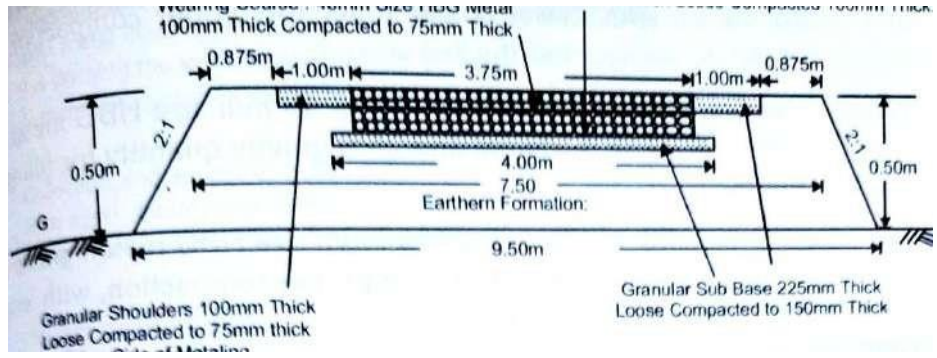

Fig.5
(B) Calculate the following quantities of WBM road shown in the fig.5 for a length of